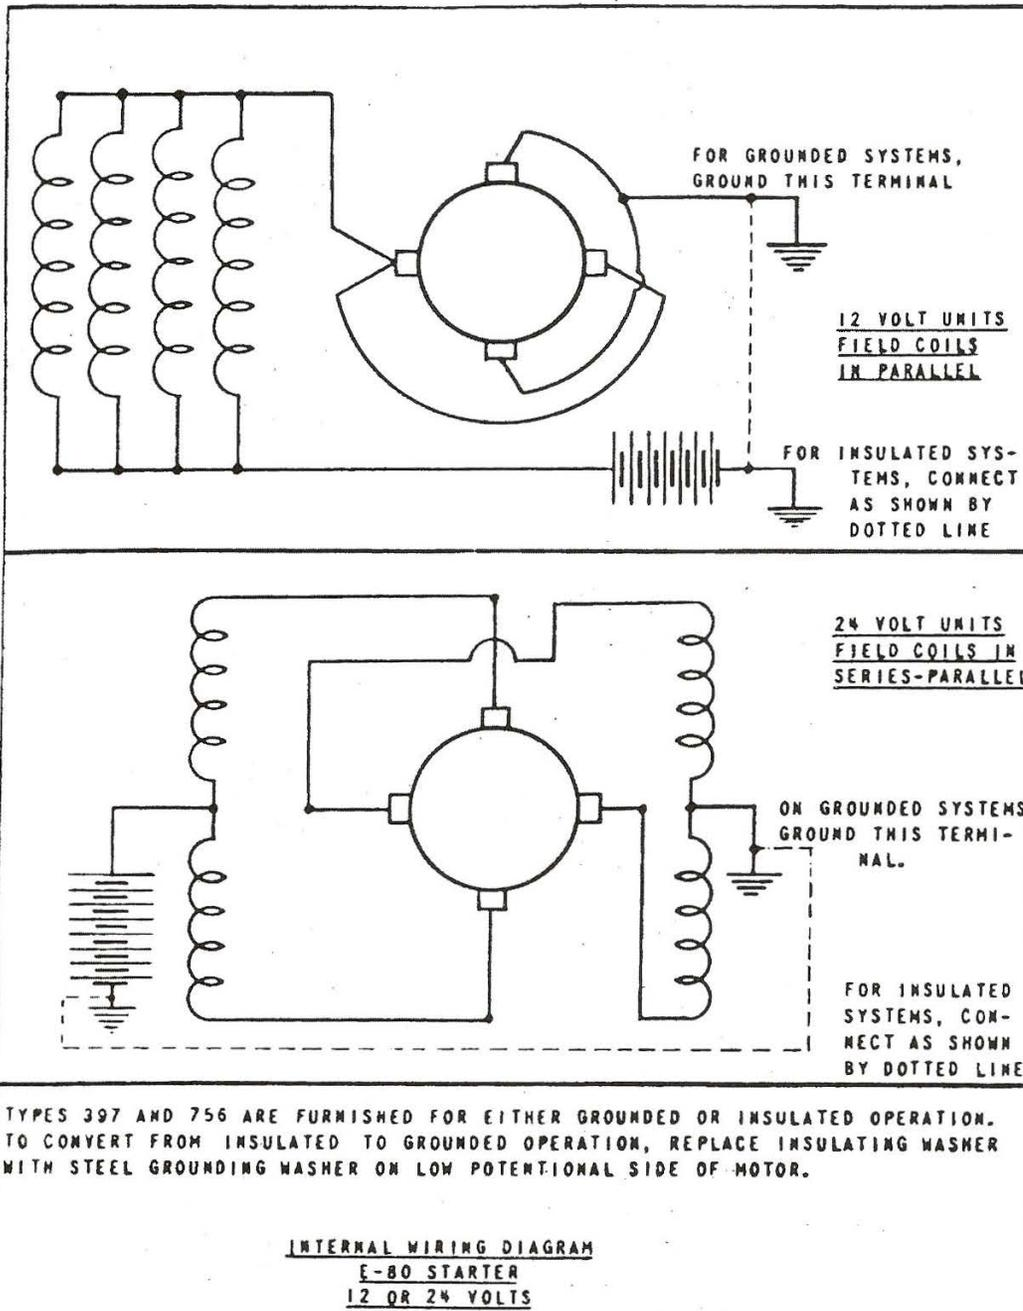
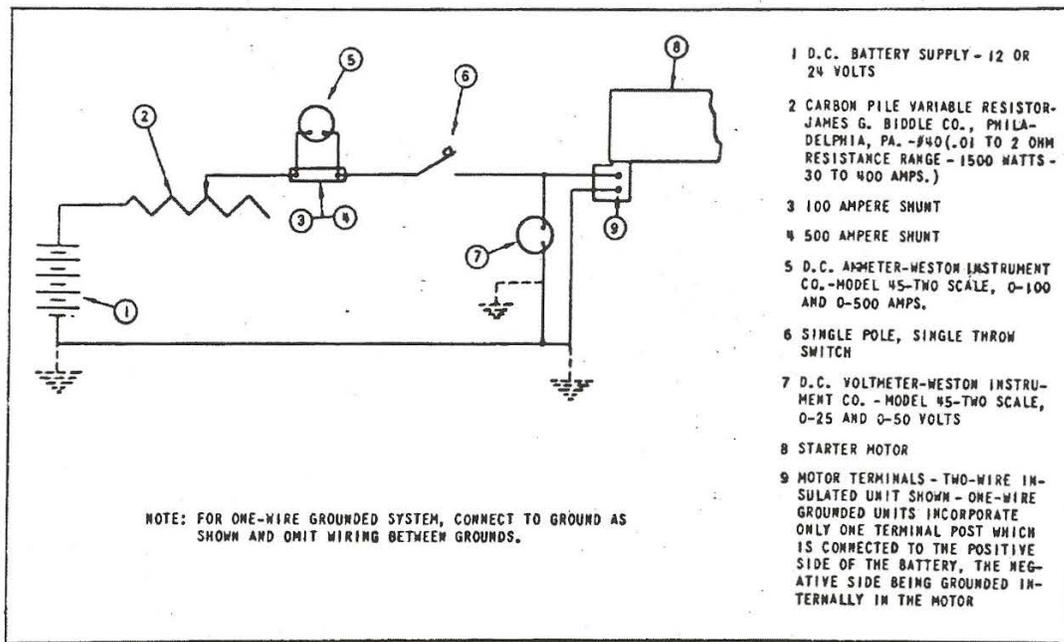
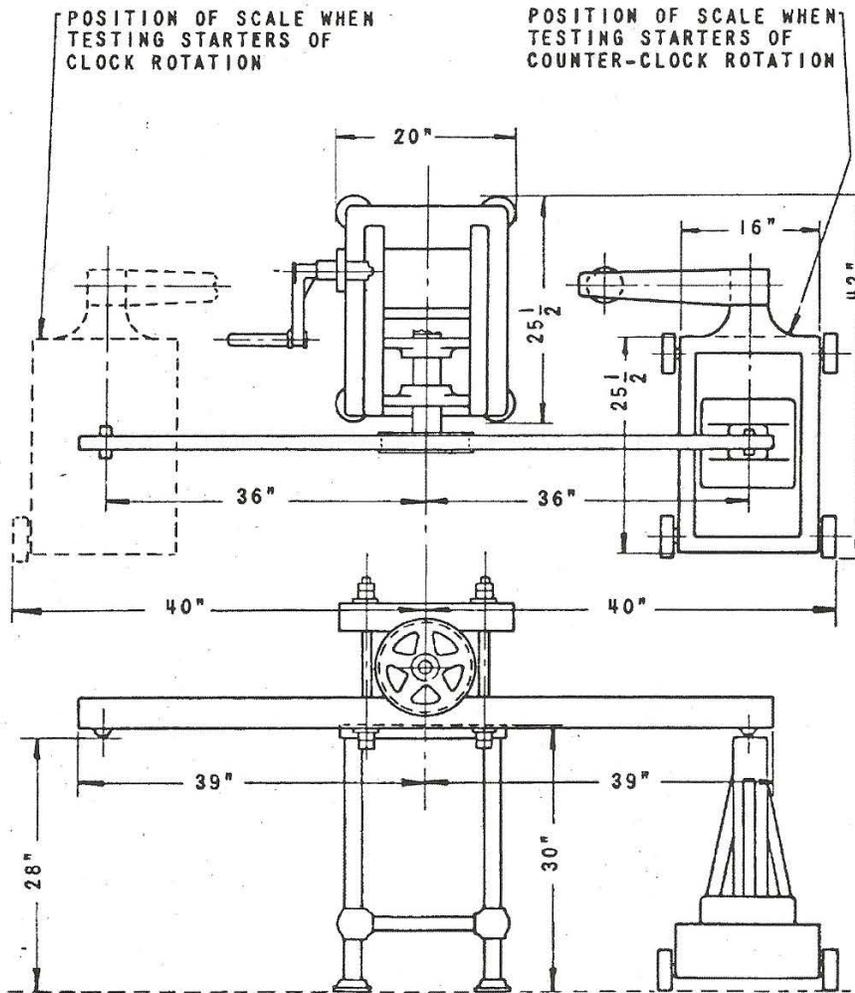

Figure 1— Schematic Internal Wiring Diagram
Figure 2—Schematic Electrical Test Diagram
Figure 3—Prony Brake Test Stand for Testing Starters
OPEN FIELD CIRCUIT: Due to the fact that the field coils on 12 volt motors are connected in parallel and thus have a very low field resistance, it is impossible to obtain a positive check on open circuits either by a test lamp circuit or by a wheatstone bridge, unless all four coils are open. The presence of an open coil can best be determined after assembly when running performance tests. This condition may be detected by a low torque output accompanied by an excessive high current draw under load run. The field coils of 24 volt units, however, are connected in series-parallel through the armature (See FIG. 1 Schematic Wiring Diagram) and will give positive results when a test lamp circuit is connected across the brush terminals. Connect one terminal of the test lamp circuit to any one of the brush terminals and touch the other terminal of the test lamp to the opposite brush terminal. Repeat this procedure on the other pair of field coils and if in either case the lamp does not light replace that pair of field coils. **CAUTION:** If only one pair of coils is defective do not loosen or disturb the other pair as this may necessitate replacement of that assembly also.
ELECTRICAL CONNECTIONS: Refer to Test Diagram Fig. 2 and connect the D.C. power supply (1), which may be either a battery or a motor generator through the carbon stack variable resistor (2), a Weston Model 45 ammeter (0-100) scale using a 100 ampere shunt and a single pole-single throw switch (6) from which a lead is connected to one of the starter terminals. Connect a Weston Model 45 Volt-meter across the motor terminals as shown.
CLUTCH ADJUSTMENT AND TEST: In order to check or adjust starter clutches and to test the units for proper operation after assembly, a Prony Brake Test Stand (EQ-327) figure 3, with a platform scale is required. With baffle plate removed, mount starter on test stand and adjust mounting bracket of stand so that the distance between starter jaw and test stand jaw is $3/32$ " when starter jaw is retracted fully. Removal of baffle plate necessitates manual engagement of starter jaw with test stand jaw. When adjusting starter clutch, as outlined below care should be taken to gradually attain the required setting WITHOUT OVERHEATING.
PERFORMANCE TESTS: Connect starter motor as shown in figure 2 under MOTOR TEST AT ASSEMBLY and assemble unit on Prony Brake Test Stand, figure 3 and proceed as follows:
Figure 1 illustrates a standard Bendix drive cranking motor, and the Bendix Drive used in conjunction with it. The Bendix drive provides an automatic means of engaging the drive pinion with the engine flywheel ring gear for cranking the engine and for disengaging the drive pinion from the flywheel ring gear after the engine starts.
When the cranking motor is not operating, the pinion is in the position shown in Figure 1; that is, it is demeshed from the engine flywheel ring gear. As soon as the cranking motor switch is closed, the cranking motor armature begins to rotate, picking up speed very rapidly. The threaded drive sleeve picks up speed with the armature inasmuch as it is driven through the drive spring. However, the drive pinion, being a loose fit on the sleeve, does not pick up speed instantly. The result is that the sleeve turns
Figure 3 illustrates a gear reduction cranking motor using a Bendix drive. The gear reduction permits a higher gear ratio between the armature and the engine crankshaft by interposing a pair of reduction gears in the cranking motor gear housing. The Bendix drive itself is very similar to the one illustrated in Figures 1 and 2.
Next, remove the cover band (Fig. 1) so the commutator, brushes and internal connections can be checked. Examine the cover band for thrown solder which results if the cranking motor is subjected to excessively long cranking periods so it overheats. This overheating causes the solder at the commutator riser bars to melt and be thrown out during cranking. Bad connections consequently develop which in turn result in arcing and burning of the commutator bars and ultimate ruination of the armature. If the bars are not too badly burned, the armature can often be saved by resoldering the connections at the riser bars (using rosin, not acid, flux), turning the commutator and undercutting the mica between bars. Some cranking motor armatures are of the welded construction, with the armature coil leads welded, not soldered, to the commutator bars. This type of armature should not be repaired by ordinary soldering methods.